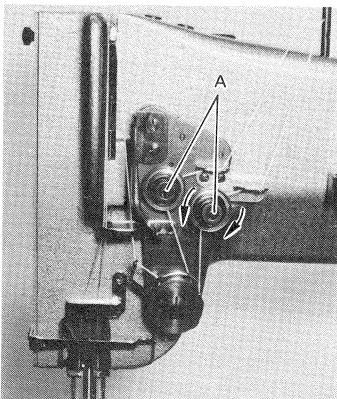

Fig. 16
REGULATING THE THREAD TENSIONS (Figs. 16 & 17)
1. The tension on the needle thread is regulated by the thumb nut (Fig. 16 A).